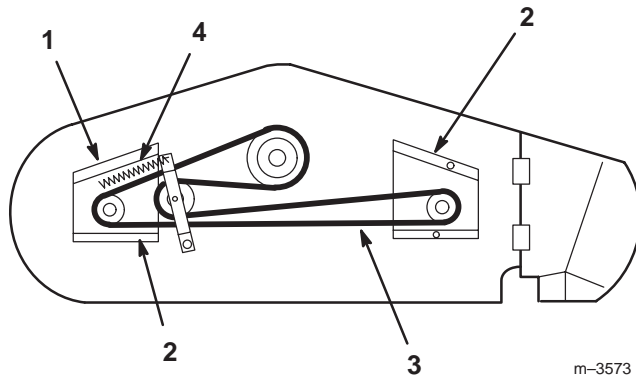

Figure 39
2. Remove the pulley cover mounting screws and pulley covers from the blade pulleys (Fig. 39).
3. Release the spring (Fig. 39).
4. Remove the belt from the pulleys (Fig. 39).
2. Attach the spring (Fig. 39).
3. Install the left and right pulley covers with the mounting screws (Fig. 39).